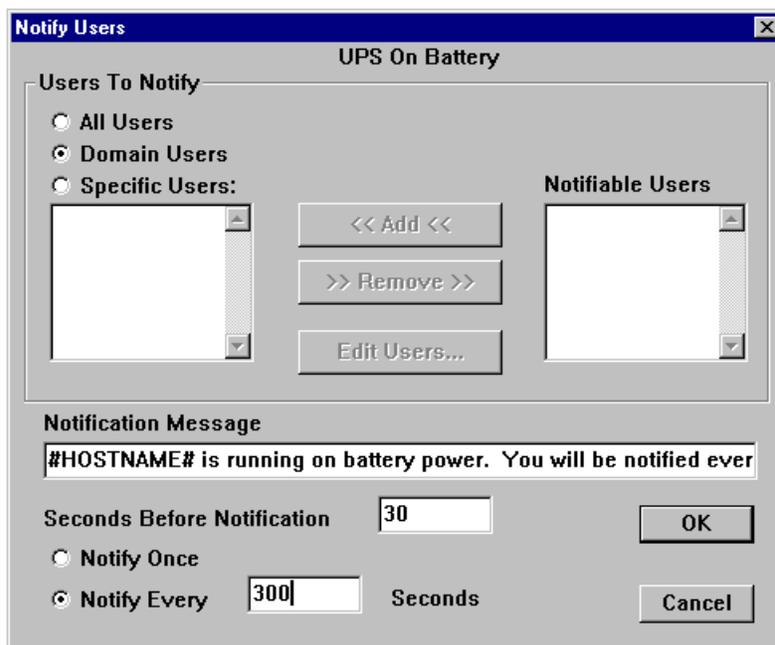

Figure 113. Setting the Options for “Notify Users”
4. Click on **Options** to the right of **Notify Users**. Figure 113 appears.
5. Configure the notification as per Figure 113.